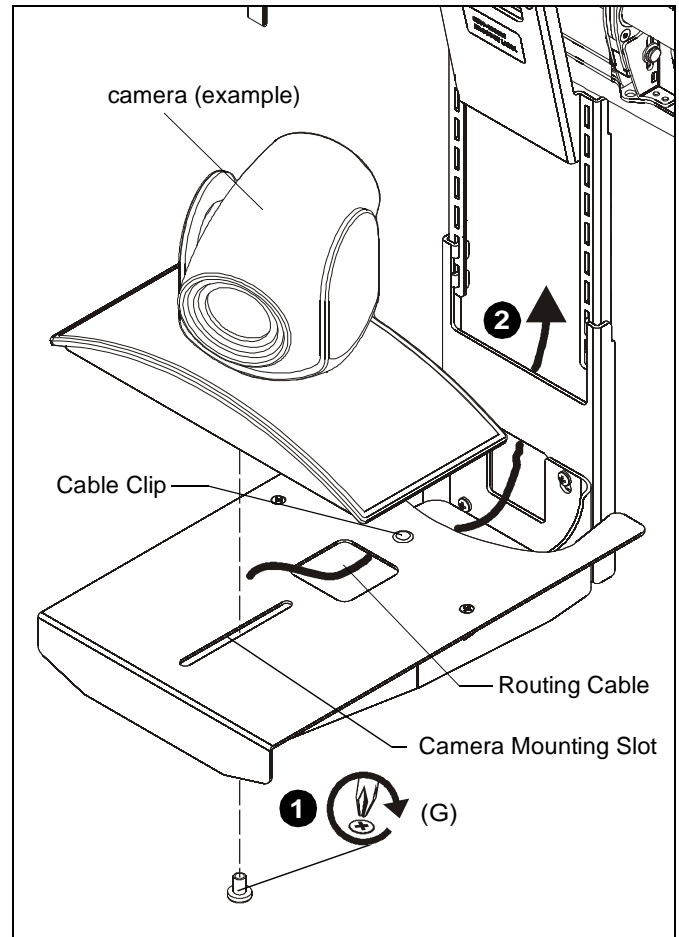

Figure 6
1. Install 1/4-20 x 3/8" Phillips pan machine screw (G) through mounting slot and into hole on bottom of camera. (See Figure 6)
2. Route cable from camera. (See Figure 6)
NOTE: Cable may be routed using the cable clip on the underside of the shelf. Secure the cable at the cable clip with a wire tie (not included). (See Figure 6)